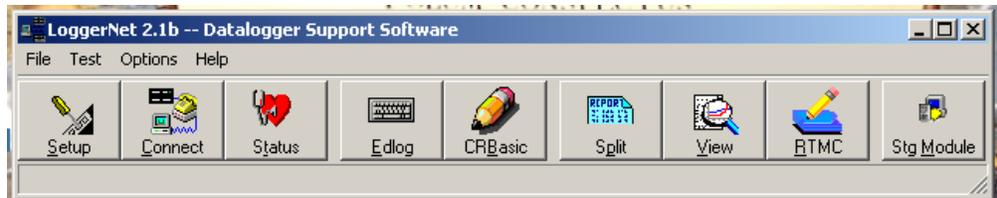

Figure 2
1. Minimize all RMC data displays to access the LoggerNet menu bar (see Figure 2).